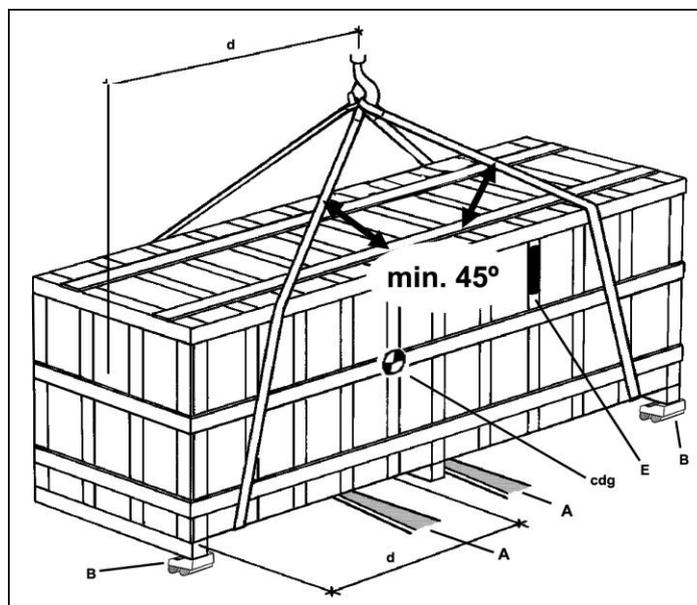

Fig. 2.2
TO NOT OVERLOAD THE SLINGS, THE ANGLE FORMED BETWEEN THEM MUST ALWAYS BE LESS THAN 45°. USE SLINGS OF SUFFICIENT LENGTH. (Fig. 2.2).
THE FRONT IS DISTINGUISHED BY THE LABEL INDICATING WEIGHTS AND CENTRE OF GRAVITY. (Fig. 2.2).
Before moving the machine, make sure the items to be used are suitable and capable of bearing its weight. The weight of the machine and the position of centre of gravity indicated by the distance **d** in Figure 2.2 (see Section 2.4) should be taken into account at all times.
The **crated machine** can be moved using any of the solutions indicated below (Fig. 2.2).
- Roller platforms placed under the base of the package (Figure 2.2). (Make sure the base of the crate does not slip on the roller platforms). Marked positioning points for the roller platforms (**B**).